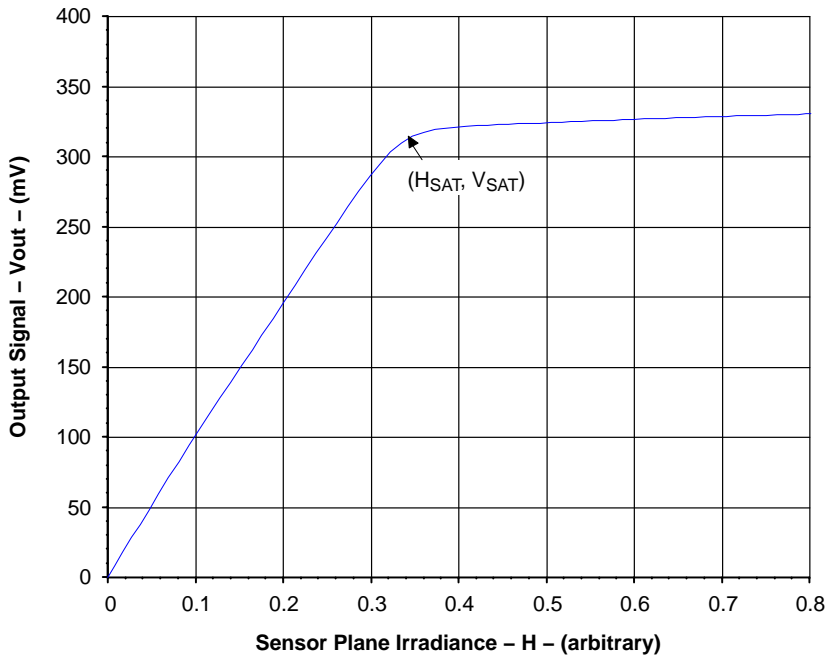

Figure 8. Typical KAI-0330 Photoresponse
6. XAB represents the increase above the saturation-irradiance level (HSAT) that the device can be exposed to before blooming of the vertical shift register will occur. It should also be noted that VOUT rises above VSAT for irradiance levels above HSAT, as shown in Figure 8.